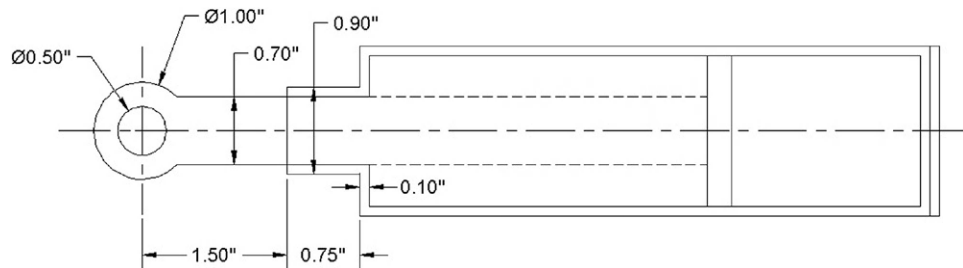

FIGURE 8.29
- Step 9.** Continue adding the basic geometry to the side view, as well as hidden and centerlines, as shown in Figure 8.29. Set LTSCALE to .4.